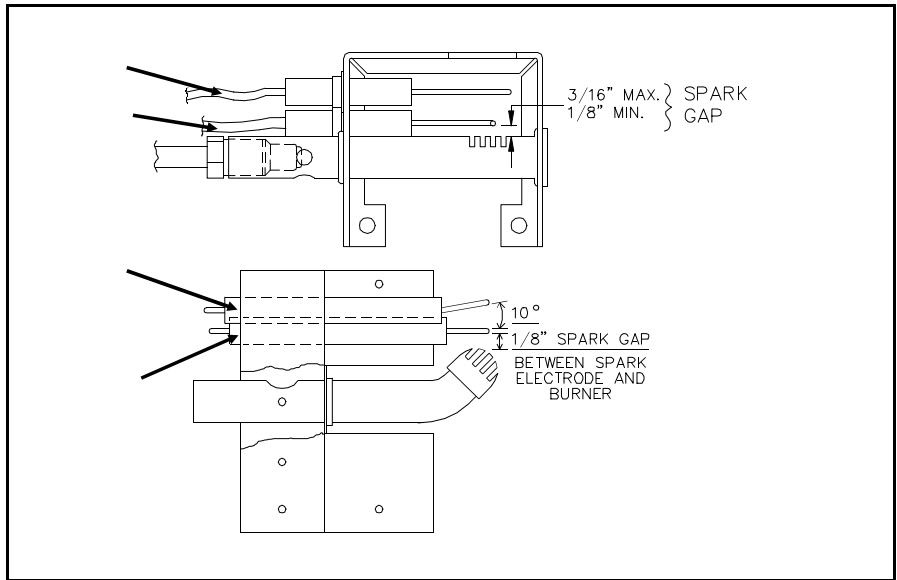

Figure 5.34 Proper Spark Gaps
- 29. Check the alignment of the electrodes as shown in Figure 5.34.